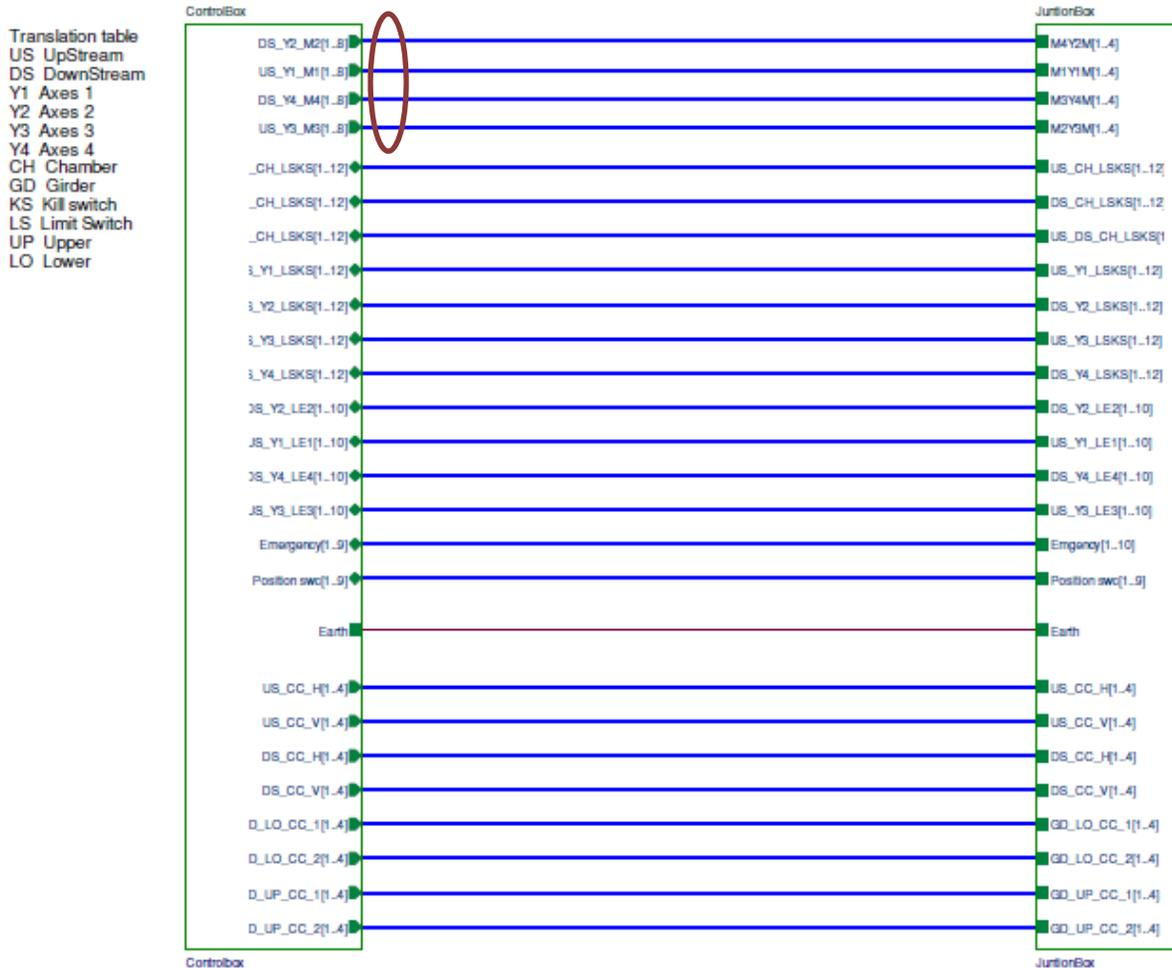

Figure 6-4: DW Control Rack to ID-resident Terminal Box Cabling
Note: Each of the four motor cables is labeled with respective termination symbol (e.g., DS_Y2_M2, DS_Y4-M4, etc.) as circled red in the schematic of Figure 6-4.
Note: Each of the four motor cables is labeled with respective termination symbol (e.g., DS_Y2_M2, DS_Y4_M4, etc.) as circled red in the schematic of Figure 6-4.
6.3.7 Reconnect the cable connectors for each of the motors (for Gap Drive and Elevator Base) to the proper labeled terminal plug (See red circle in Figure 6-4).